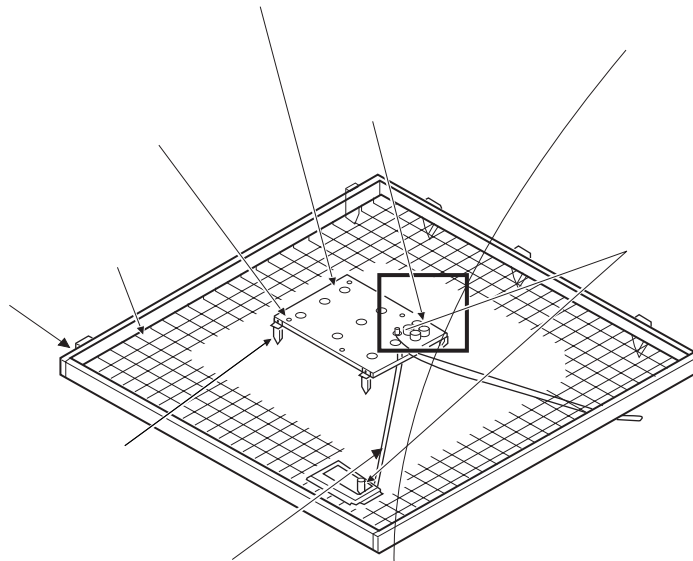

Figure 6. Foundation Pad Design
- 9 Place wire mesh (6 x 6, 4 gauge) in the form; ensure that the mesh is vertically centered in the form as shown in Figure 6 on page 9.